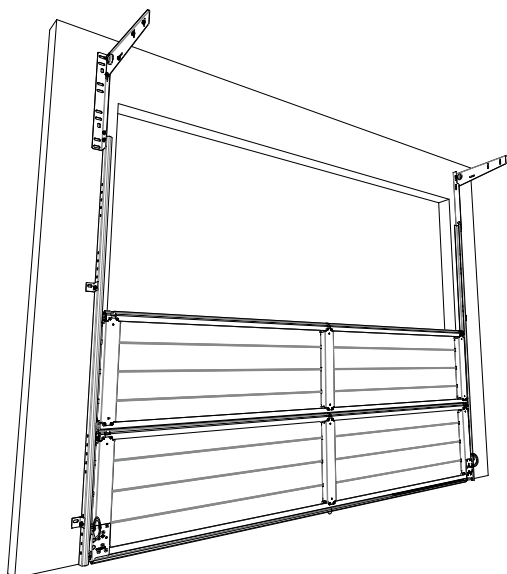

Fig: 3.2.2
- Insert the next panel into the tracks and rest on top of the bottom panel. Fig 3.2.2.
- c) Fit 1 x reinforcing end cap ④ to each exposed end of the reinforcement bars (2 end caps per reinforcement bar). Fig. 3.2.2